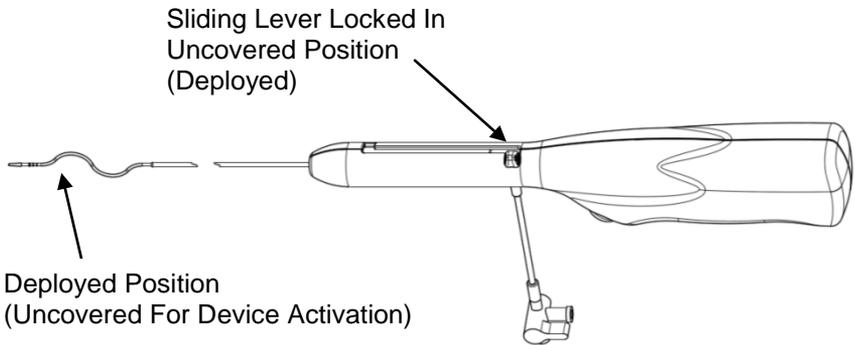

Figure 4
12. Advance the flexible tip up to the distal most extent of the clot. Uncover the sinuous wire by unlocking, fully retracting the sliding lever and rotating the sliding lever until an audible “click” is heard (refer to Figure 4). Confirm device positioning within the treatment site via fluoroscopy. Press the ON/OFF switch to activate rotation.